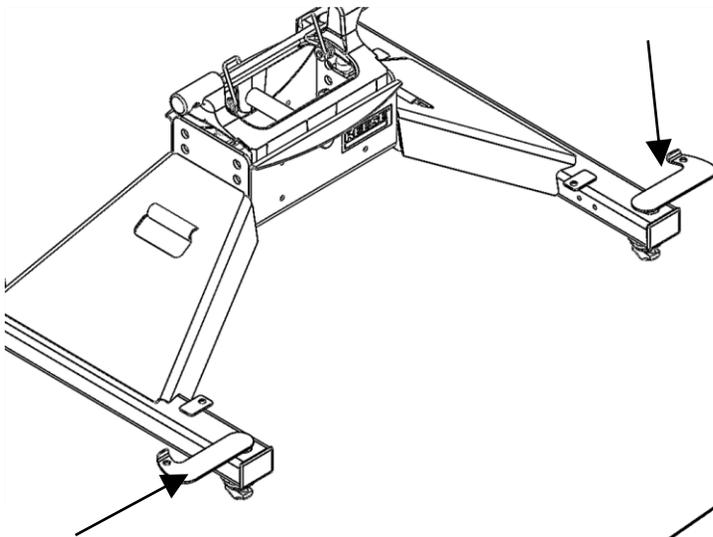

Figure 16: Anchor Handles in Unlocked Position
2. Set hitch onto the pucks and rotate handles into unlocked position (see Figure 16) until hitch drops into pucks on all (4) corners.
4. Rotate (4) handles into unlocked position (perpendicular with base arch shell, Figure 16). Lift each side of hitch out of pucks separately, handles may have to be jiggled slightly to align anchors with puck holes to remove.